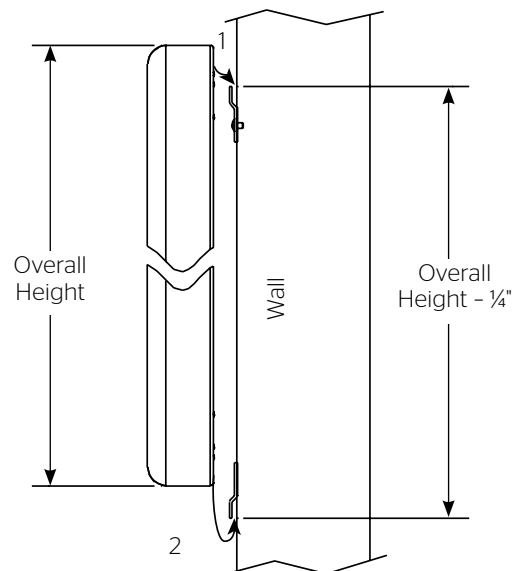

Figure 6
2. To install the lower wall bracket, you must measure the overall height of the screen frame and subtract $\frac{1}{4}$ ". This is the dimension from the top of the upper wall bracket to the bottom of the lower wall bracket. See Figure 6.
3. Position the screen with the attached surface onto the top wall bracket as shown in Figure 6. Push down at the center of the bottom frame rail to hook onto the lower wall bracket.
1. Secure the large wall brackets to wall studs at the desired height. Make sure the brackets are level. The top of the frame will be $\frac{1}{8}$ " above the top of the large wall bracket when mounted. You will need at least $\frac{5}{8}$ " clearance above the bracket to hang the screen. Figures 6 and 7 show the proper orientation for the supplied wall brackets.
2. To install the lower large wall bracket, you must measure the overall height of the screen frame and subtract $\frac{1}{4}$ ". This is the dimension from the top of the upper large wall bracket to the bottom of the lower large wall bracket. See Figure 6.
3. Position the screen with the attached surface onto the top large wall bracket as shown in Figure 6. Push down at the center of the bottom frame rail to hook onto the lower large wall bracket.